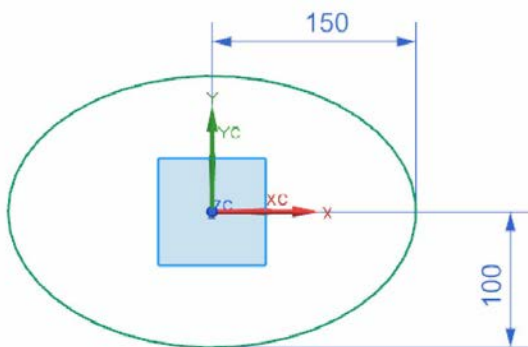

Figure 10-111 The sketch for the guide string
- Create the styled sweep surface as the base feature, refer to Figures 10-111 through 10-113.
1. Draw an ellipse on the XC-YC plane, as shown in Figure 10-111, and exit the sketching environment.